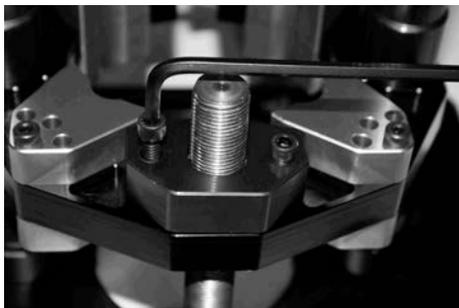
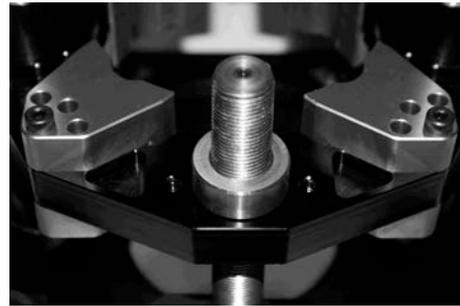

Figure 11
Figure 12
2. Remove the 1/4-20 x 1" Cap Screws from the Carriage Nut Cover (Figure 11) and remove the cover and o-ring (Figure 12)
6. Place back the o-ring and carriage nut cap and with the screws you removed in Step 2 (Figure 11) fasten the carriage nut cap securely